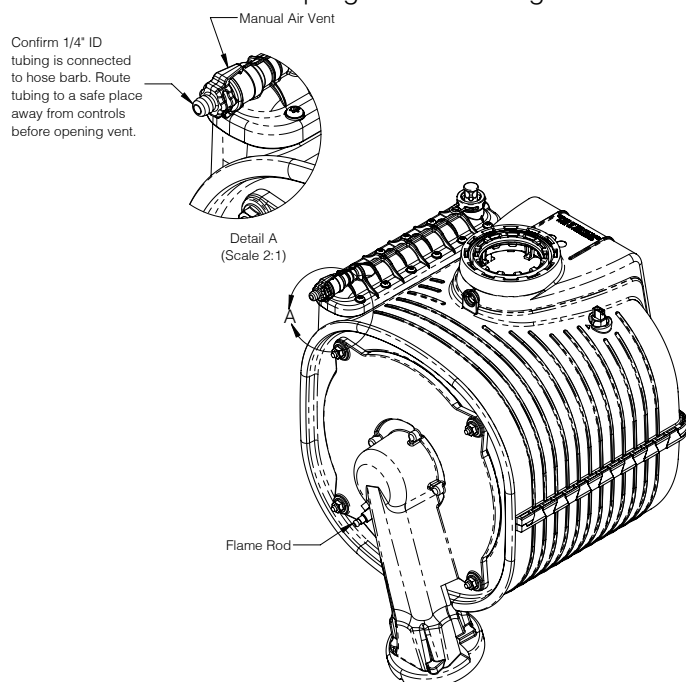

Figure 15-1: Manual Air Vent Location
exchanger manual air vent on top left side of heat exchanger (Figure 15-1).
- B. Measure carbon monoxide (CO) level after 5 minutes of operation above 50% firing rate. This can be done by providing DHW demand. Ensure door is sealed before taking combustion readings.
11. Perform a check of ignition safety shut-off device. With burner firing, carefully unplug black ignitor/flame sensor wire at burner door using a pair of insulated pliers (Figure 15-1). Burner should shut off immediately.